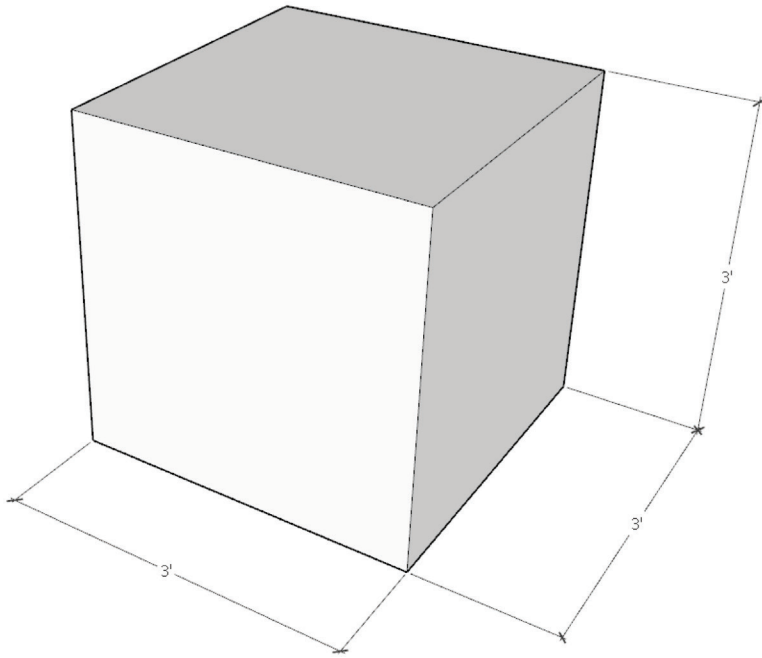

Figure 4.4 Cube.
8. Notice the cube in Figure 4.4, a perfect cubic yard, consisting of 6 faces and 12 edges. Selecting any face or edge, by left-clicking, will display area or length in the Entity Info box. (*Notice as you left click on a face or edge, the selected item will be highlighted in blue.*) But what about volume? In order to find out the volume of this cube we first have to make it a Solid. This is a very important step and a fundamental you must learn and understand. To make this cube a solid, we must make it a Group or a Component. We will be discussing groups and components, their differences, etc. in detail later. For this first, quick lesson, we are going to make this cube a Solid Group.